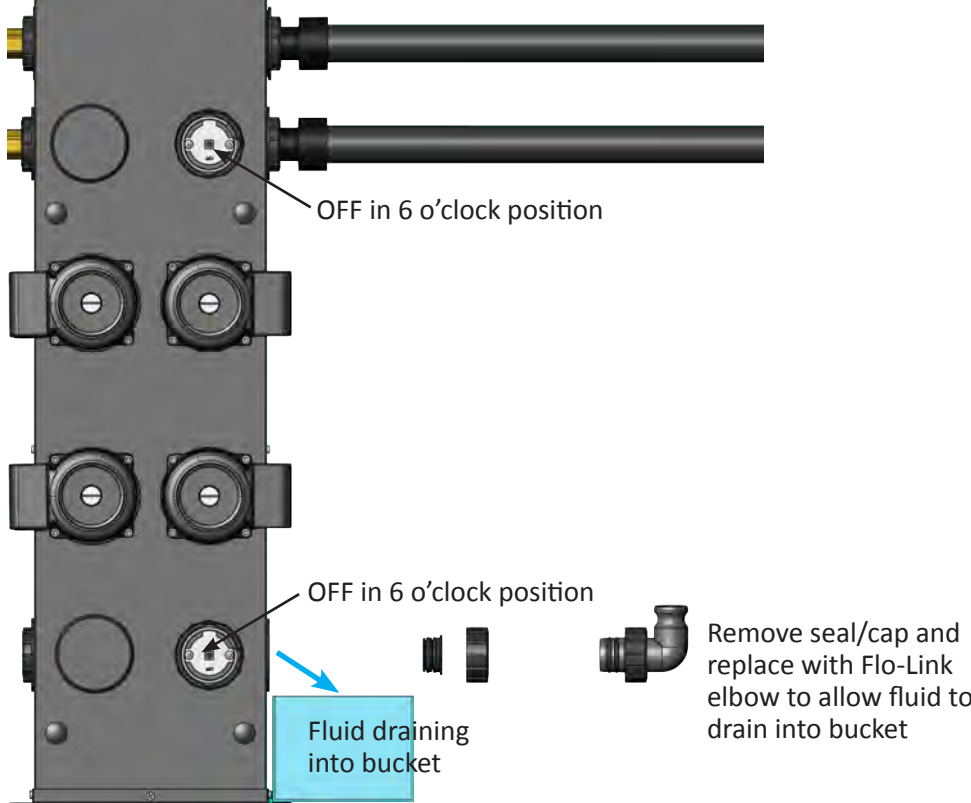

Figure 23: Catching fluid from pump stack when replacing pump motor
4. Rotate OFF on the lower valve to the 6 o'clock position to isolate the tank from the pump stack. Remove the cap and plug seal on the lower valve and capture the fluid that exits in a pan. Retain this fluid to add back to the tank after service is complete (Figure 23).